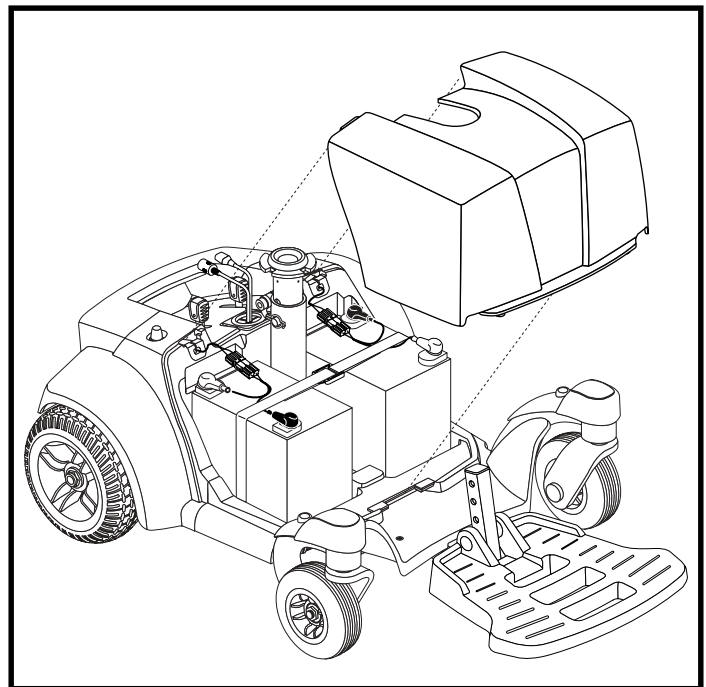

Figure 17. Battery Cover Removal
1. Lift up on the battery cover and slide the tabs out as shown in figure 17.
8. Reinstall the battery cover by aligning the tabs as shown in figure 17 and pressing down.